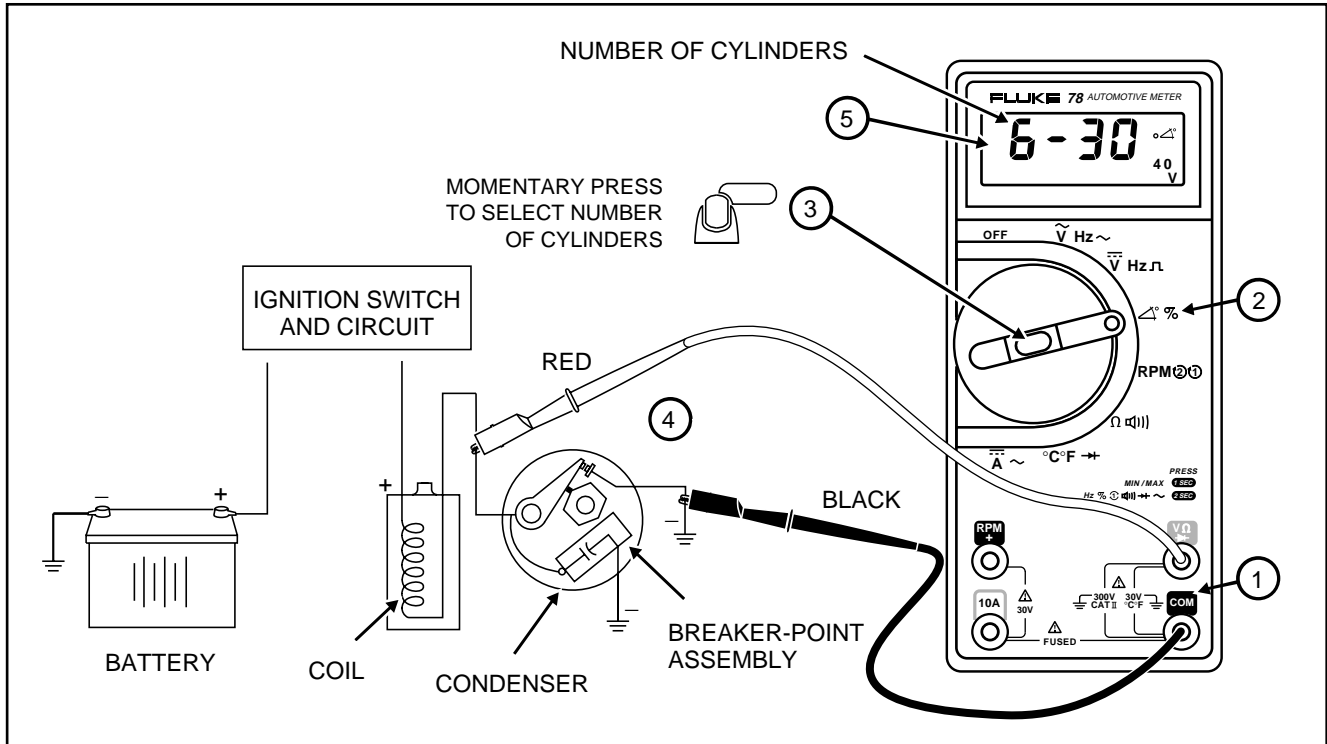

Figure 13. Measuring Dwell on a Conventional Ignitions
1. Insert the test leads into the jacks (Figure 13).
4. Clip the black lead to ground and the red lead to the distributor side (-) of the coil as shown in Figure 13.